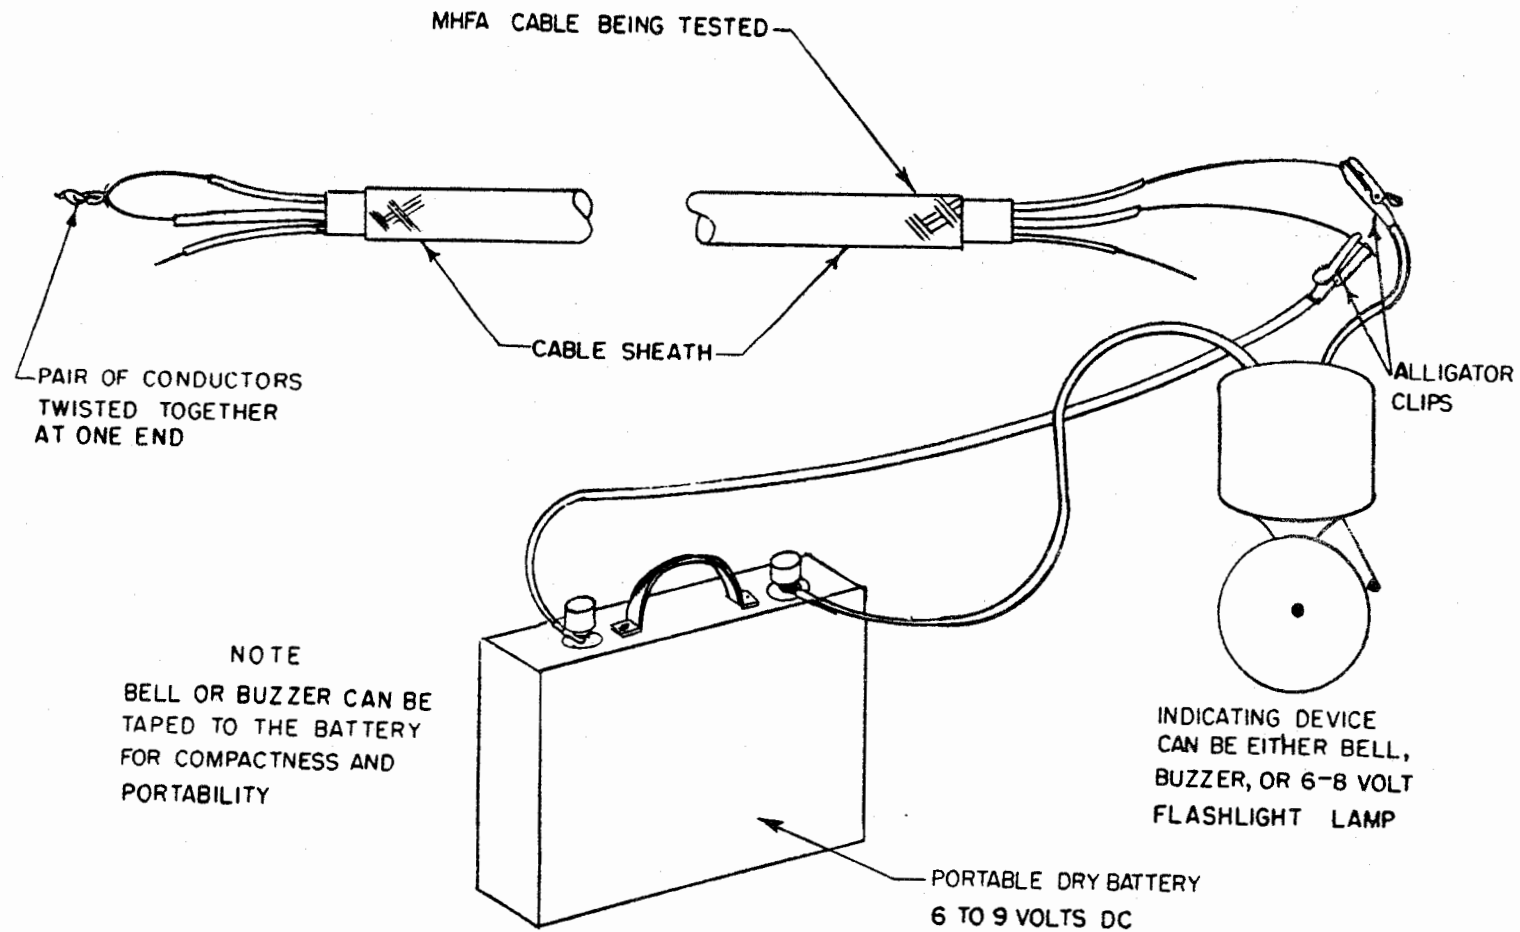

Figure 4-1. Testing a Cable with Bell or Buzzer and Battery
(1) TEST FOR CONTINUITY.- Connect the two leads of the bell (or buzzer) and battery to the pair of conductors being tested. Twist the conductors together at the opposite end of the cable. Continuity is indicated by the sounding of the bell, or buzzer. Repeat this test for each pair of conductors in the cable. See Figure 4-1.
(2) TEST FOR SHORTED CONDUCTORS.- Remove one of the bell (or buzzer) leads and touch the lead to all the